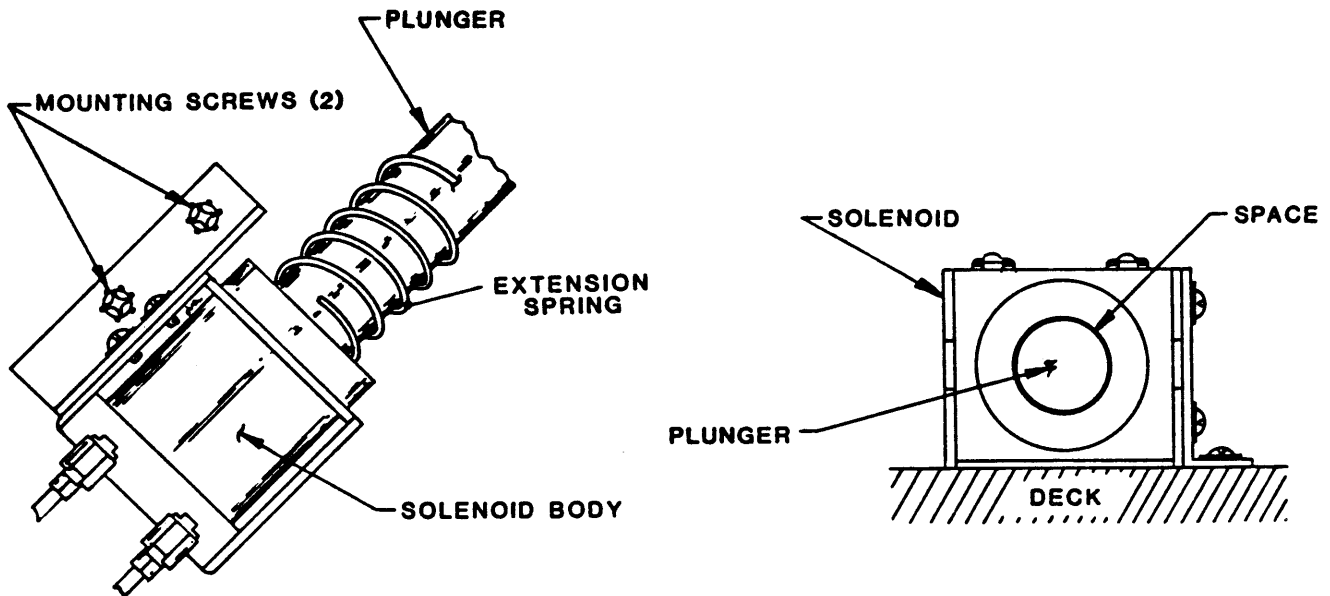

Figure 4-4 Hub Lock Solenoid
4.3.3 HUB LOCK SOLENOID (Fig. 4-4)